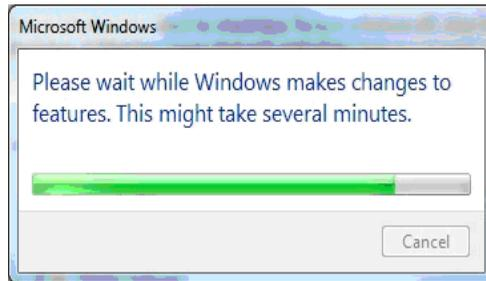

FIGURE 2-3 Microsoft Windows® - Please Wait
Step 9 Click **OK**. Wait for Windows to make changes, as shown in FIGURE 2-3.